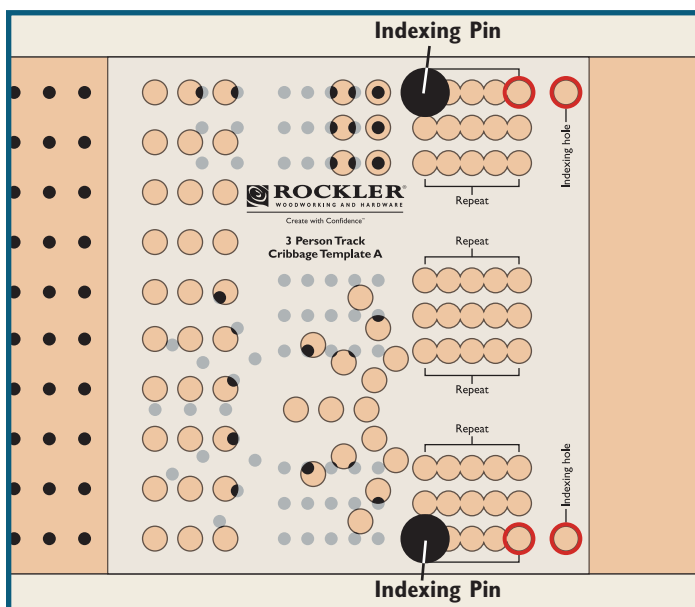
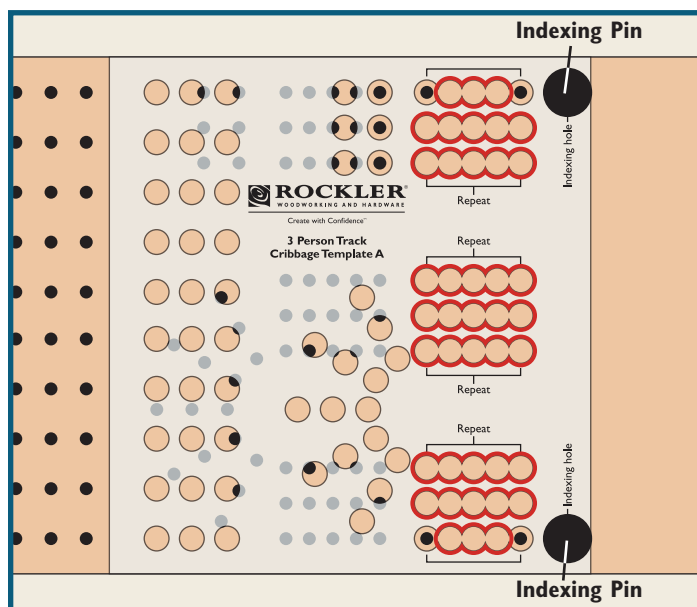

Fig. 3
Fig. 4
4. Remove the Indexing Pins and shift the Square Template so that the two rearmost outside holes in the "Repeat" section of the template are over the previous indexing holes. Press the Indexing Pins in these holes and drill the four holes outlined in red in **Fig. 3**.
5. Move the Indexing Pins to the new indexing holes and drill the holes outlined in red in **Fig. 4**.
6. Repeat Steps 4 and 5 four more times, drilling the holes outlined in red in **Fig. 3** and **Fig. 4**.